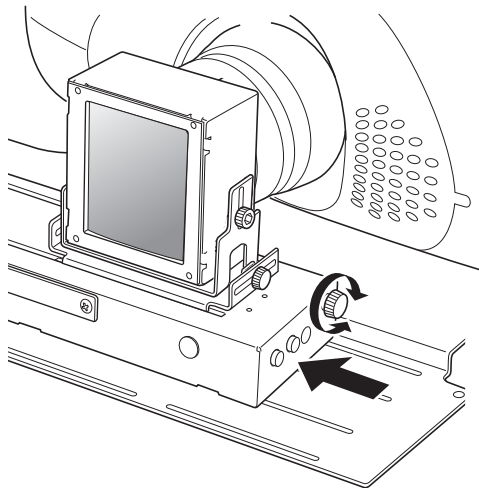

Figure 27
2. Aim the remote controller included with the VP11 or VP15 series projector at the remote control receiver of the lens slider and press the AUX1 button to move the anamorphic lens to the operating position. Check that the center of the LN-11S1A anamorphic lens in the horizontal direction is aligned with the center of the projector's lens in the horizontal direction. If the centers are not aligned, adjust by turning the screws shown in the figure to the right in the direction of the arrow. Refer to Figure 27.